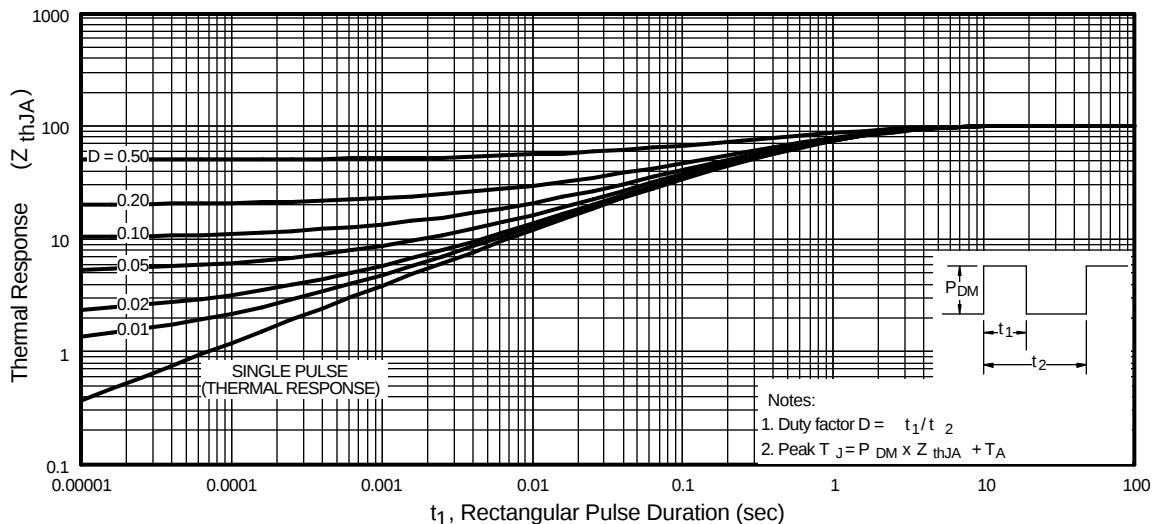

Fig 11. Maximum Effective Transient Thermal Impedance, Junction-to-Ambient
① Repetitive rating – pulse width limited by max. junction temperature (see fig. 11)
② $I_{SD} \leq -1.2A$, $di/dt \leq -140A/\mu s$, $V_{DD} \leq V_{(BR)DSS}$, $T_J \leq 150^\circ\text{C}$
③ Pulse width $\leq 300\mu s$ – duty cycle $\leq 2\%$
④ Surface mounted on FR-4 board, $t \leq 10sec$.